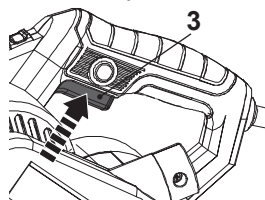

Fig. 14
1. Switch the product on by pressing the on/off switch (3) and hold it in position (Fig. 14, step 1).
2. Press the lock-on button (4) and hold it in position to lock the on/off switch (3) (Fig. 14 step 2).
3. Release the lock-on button (4) and on/off switch (3). The on/off switch is now locked on for continuous use.
4. Depress and release the on/off switch (3) to switch the product off.